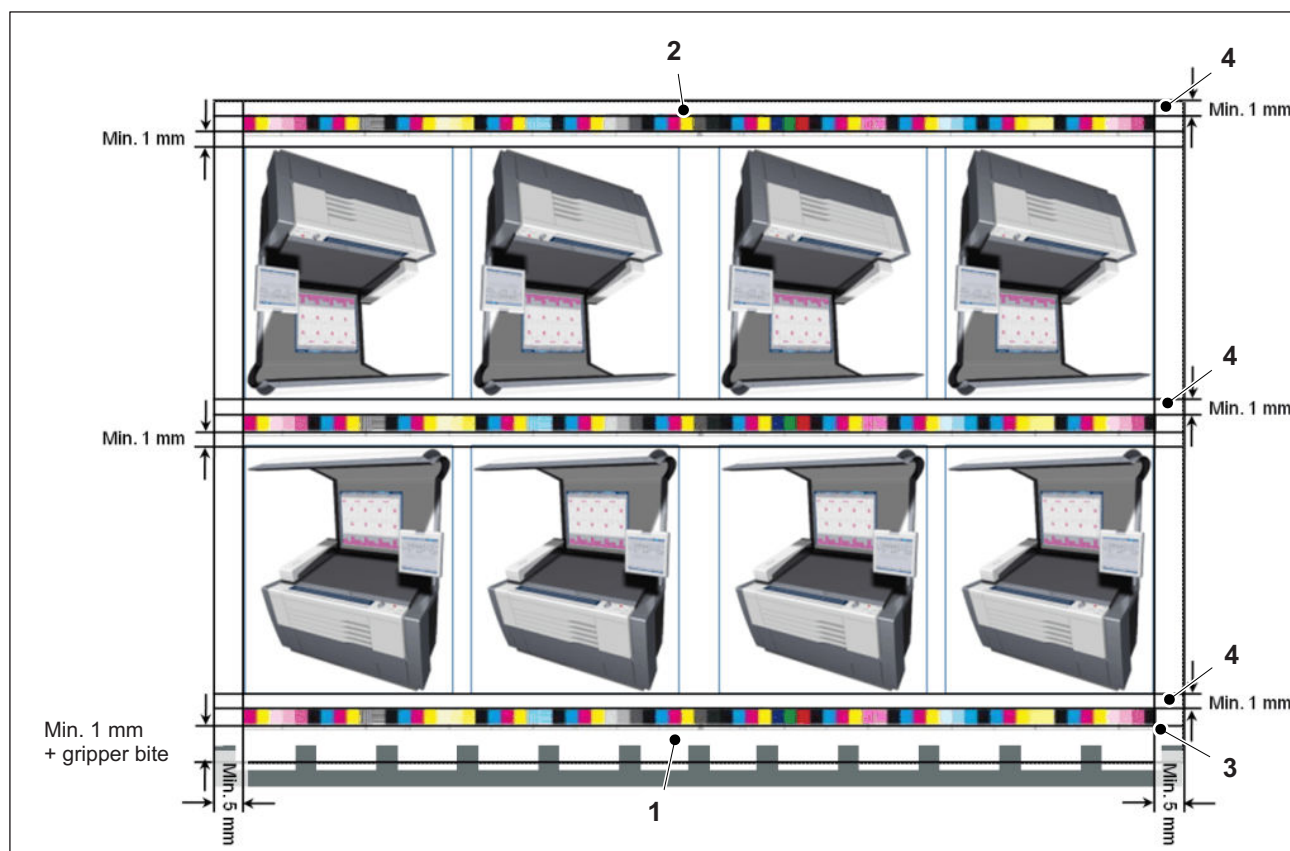

Fig. 13 Mounting Prinect Axis Control on Prinect Press Center
- You can mount the quality control strip at any position you wish between the gripper margin (Fig. 13/1) and the rear edge of sheet (Fig. 13/2).
- In order to facilitate the automatic paper white measurement and detection of the quality control strip, there must be at least 5 mm of paper white between the lateral sheet edges and the start of the quality control strip (Fig. 13/3).
- If you are working with auto tracking, there must be a gap of at least 1 mm of paper white from the color measurement field to the printed image and to the rear edge of sheet (Fig. 13/4).